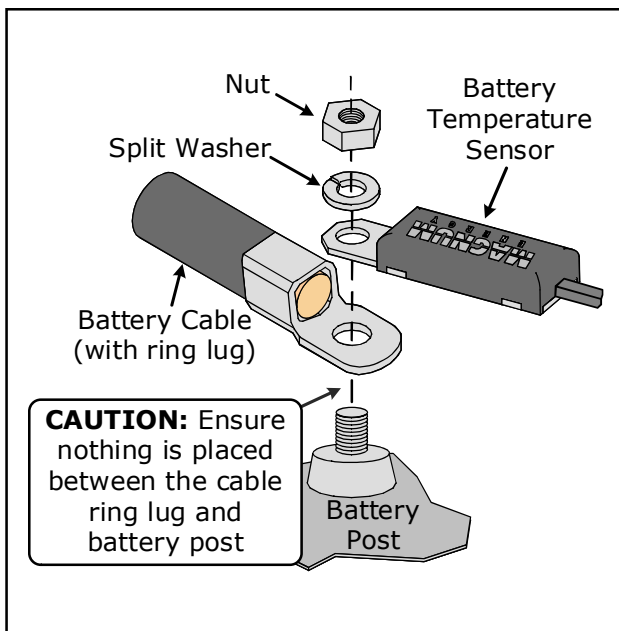

Figure 2-5, Battery Hardware Installation
Refer to Figures 2-5 and 2-6 for the correct way to connect the DC cables and to stack the hardware. Tighten the DC cable connections from 10 to 12 lb f (13.6 to 16.3 Nm).
1. Attach the ring terminal end of the Battery Temperature Sensor (BTS) to the negative battery terminal (see Figure 2-5 for proper connection to the battery terminal).
6. Ensure the DC wire connections (on the batteries, inverter, and DC circuit breaker) are flush on the surface of the DC terminals, and the hardware (lock washer and nut) used to hold these connections are stacked correctly (see Figures 2-5 and 2-6). Verify all DC connections are torqued from 10 to 12 ft lbf (13.6 to 16.3 Nm).